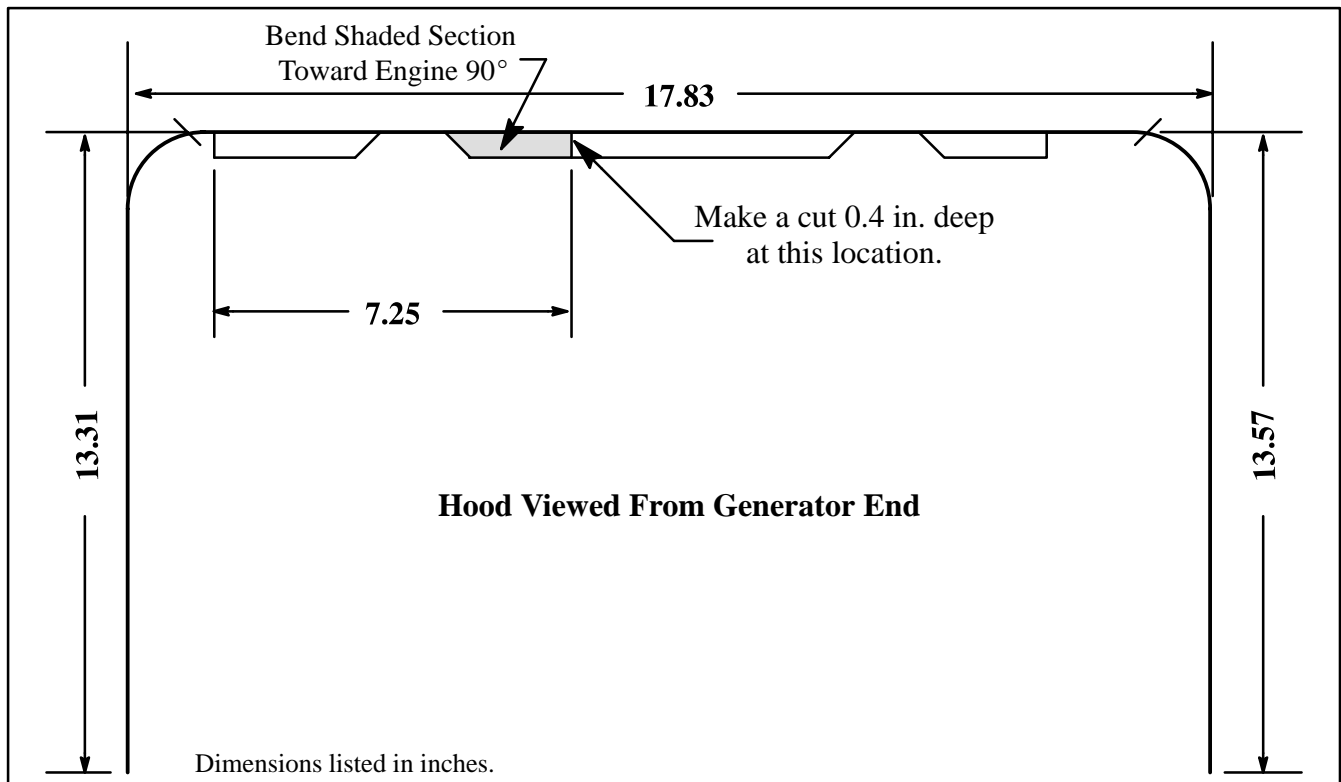

Figure 1. Hood Cut-Out Pattern.
6. Remove hood to expose engine end of unit. The hood will require a small cutout on generator end of hood. Follow cutout pattern in Figure 1.